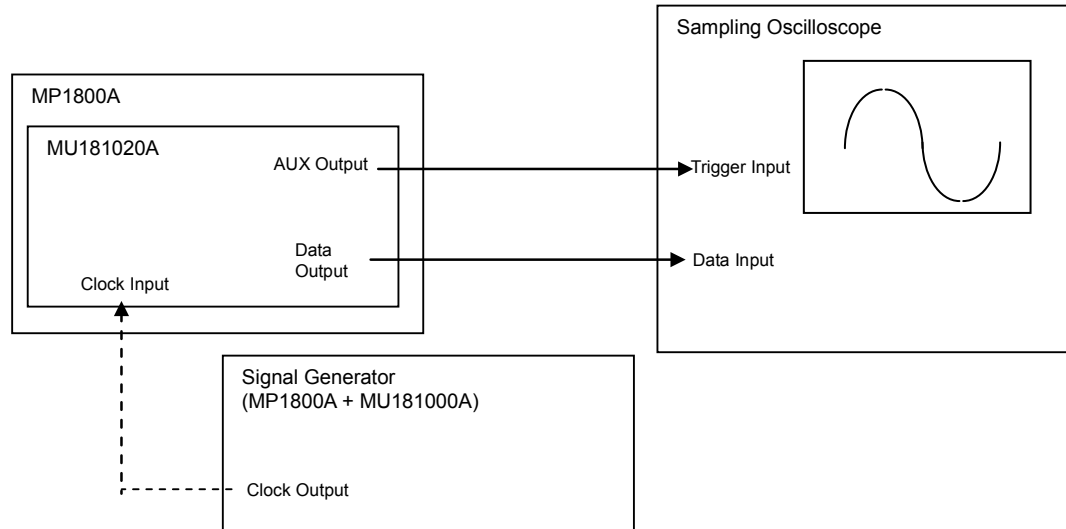

Figure 7.3.2-1 Connection diagram for waveform test
7. Connect the cables among the measuring instruments, referring to Figure 7.3.2-1.
9. After warming up the instruments, enable the MP1800A signal output (ON) and output signals.